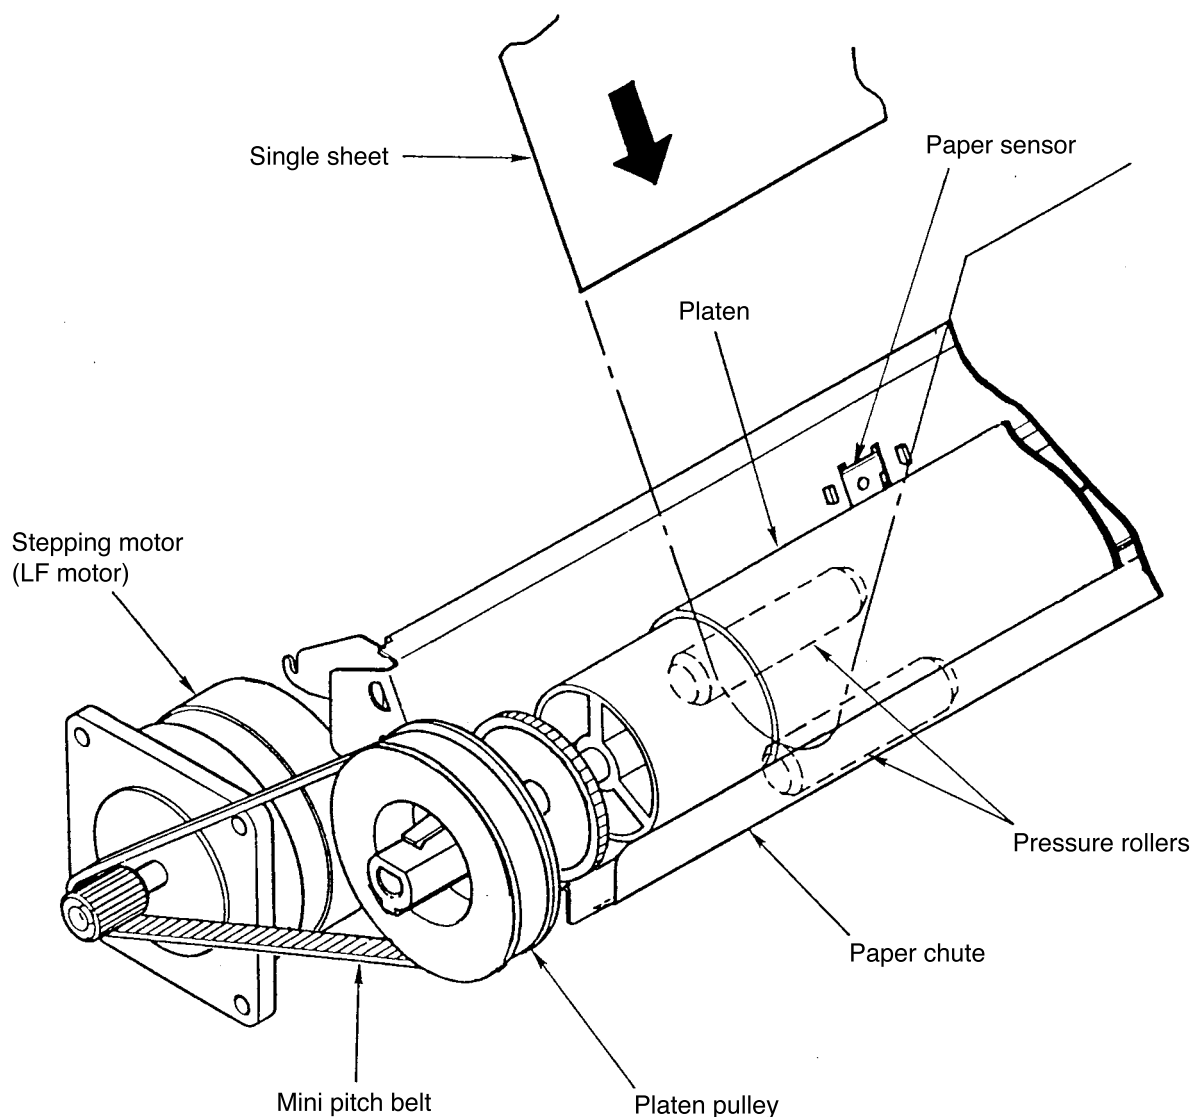

Figure2.6 Single sheet feeding mechanism
(1) Single sheet feeding mechanism (See Figure 2.6)